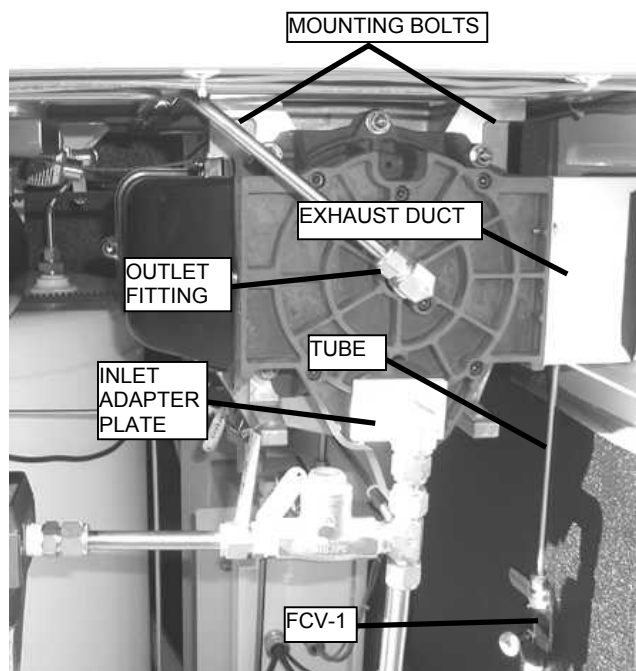

Figure 11. Scroll Compressor Mounting Bolts.
- Remove the inlet adapter plate from the scroll compressor. Refer to Figure 11.
- Remove the outlet tube from the outlet fitting. Refer to Figure 11.
- Remove the tube from the flow control valve (FCV-1). Refer to Figure 11.
- While supporting the scroll compressor, remove the mounting bolts, nuts and washers that attach it to the upper frame of the EDOCS-120 (see Figure 11).
- d. Install the tube to the flow control valve (FCV-1) by first inserting the tube in the hole in the exhaust duct then on the fitting on the valve. Tighten the fitting snugly. Refer to Figure 11.
- e. Install the outlet tube to the outlet fitting on the scroll compressor. Refer to Figure 11.
- f. Assemble the inlet adapter plate to the inlet port on the scroll compressor. Ensure that the rubber gasket is in place. Refer to Figure 11.